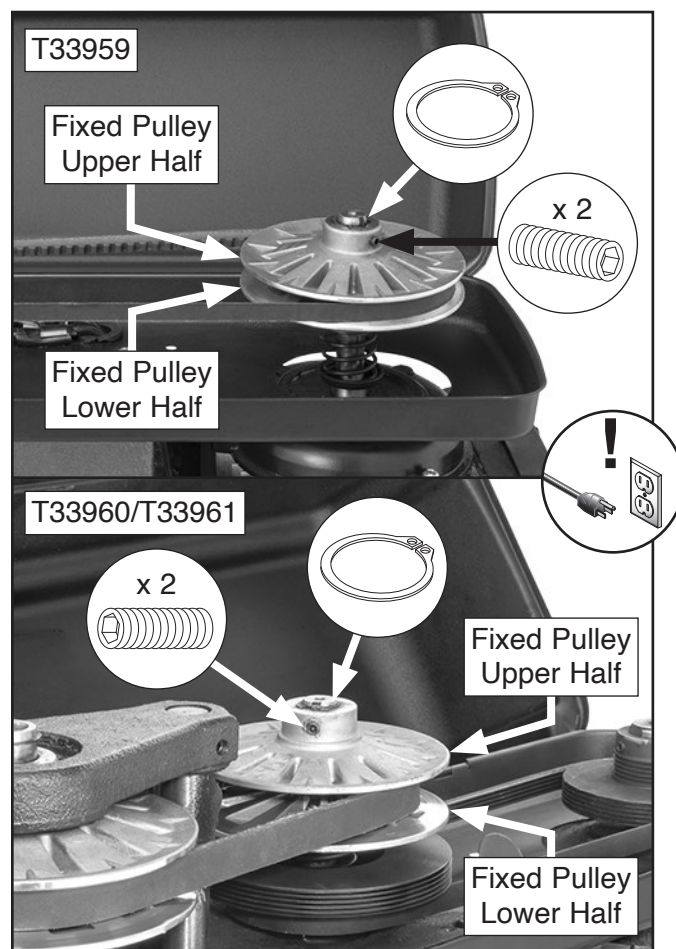

Figure 63. Location of fixed pulley external retaining ring and set screws.
5. Remove fixed pulley external retaining ring shown in **Figure 63**.
6. Loosen (2) set screws shown in **Figure 63** and remove upper half of fixed pulley.